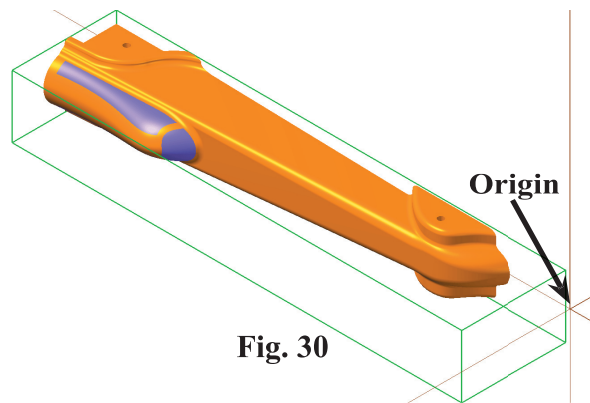

Fig. 30
Step 1. Display the origin. Use **F9** to show the axes, **Fig. 30**.